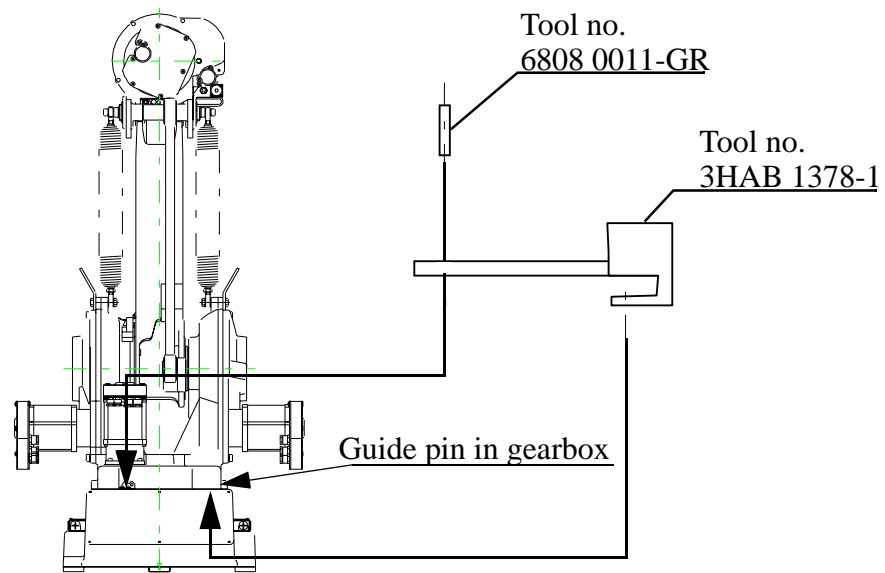

Figure 10 <calibration of axis 1.
12. Attach the calibration tool for axis 1 on the guide pin underneath the gearbox, see Figure 10.